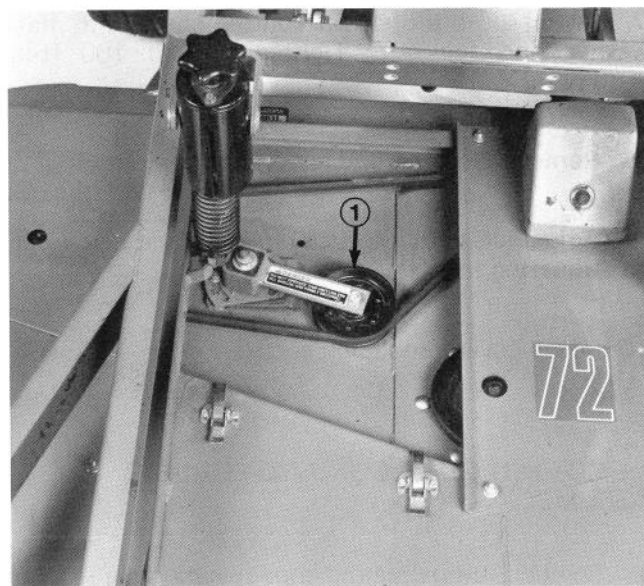

Figure 37
3. Loosen two nuts securing idler plate so tension of the idler pulley against the belt is released (Fig. 37).